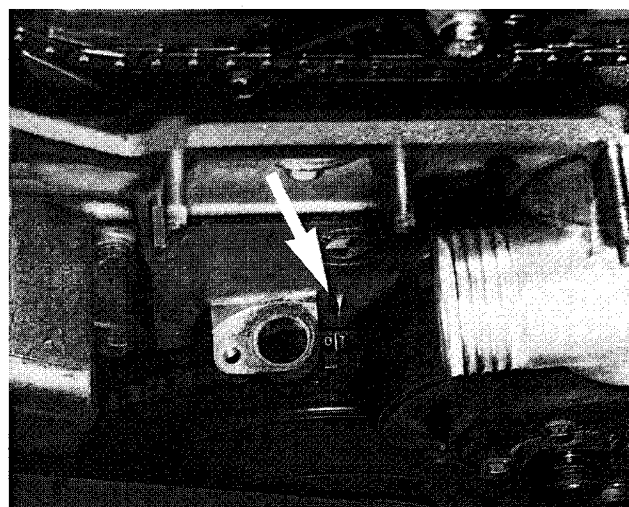

Fig. 21. O/T (0°TDC) mark on vibration damper aligned with boss on timing chain cover (**arrow**).
14. Set engine to TDC by aligning "0/T" mark (0°TDC) on front vibration damper with cast boss on lower timing chain cover. See Fig. 21.